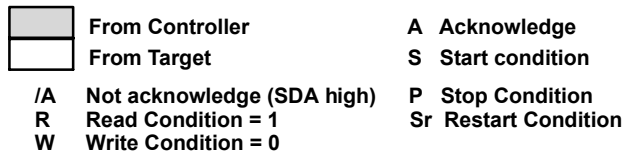

图 6-8. I2C Read Cycle
The transmitting device must not drive the SDA signal during the acknowledge cycle so that the receiving device may drive the SDA signal low. The controller indicates a not acknowledge condition ( $\bar{A}$ ) by keeping the SDA signal high just before it asserts the stop condition (P). This sequence terminates a read cycle as shown in 图 6-8.